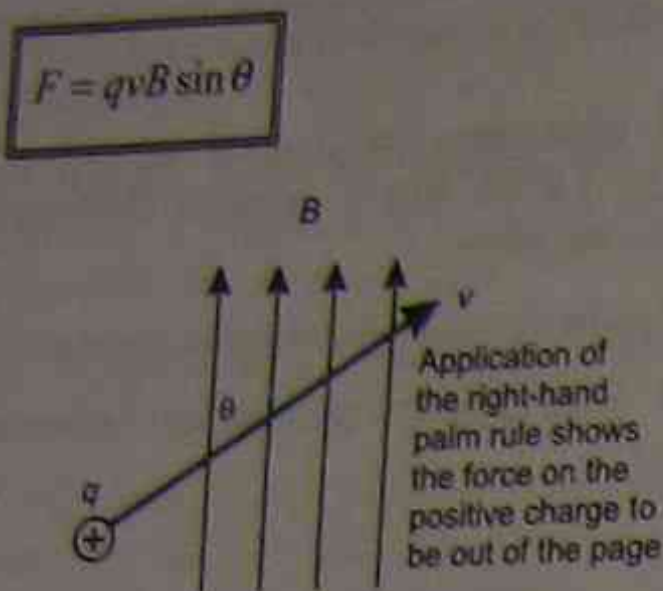

Figure 3.8 Force on a charge moving in a magnetic field
The force (F) acting on a charge (q) moving with a velocity (v) at an angle θ to a magnetic field (B), (Figure 3.8) is given by: